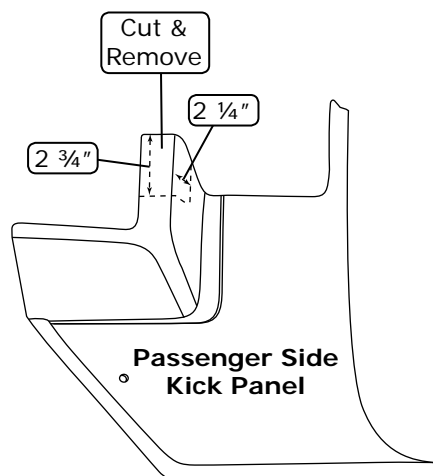

Figure 19
6. Modify the passenger side kick panel as shown in Figure 19, below.